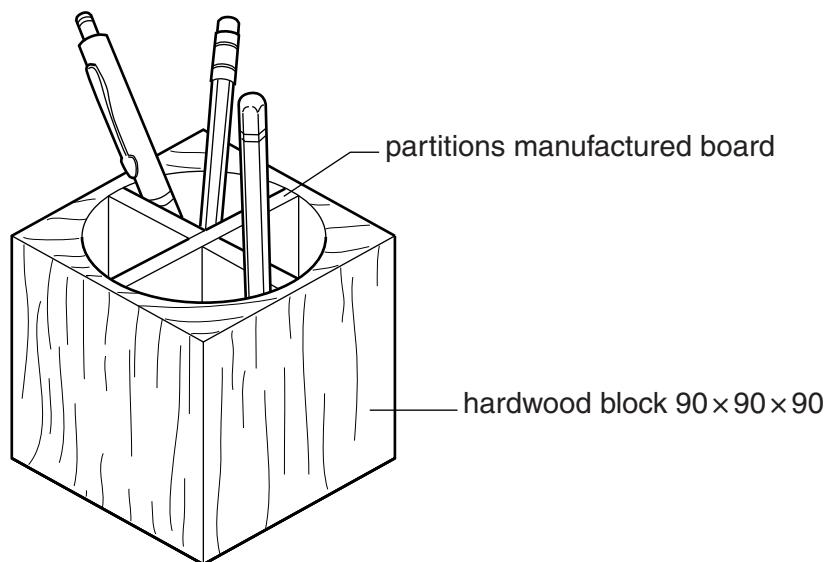

Fig. 4
- 3 Fig. 4 shows a pen and pencil holder made from hardwood and manufactured board.
- (b) Use sketches and notes to show how the manufactured board could be joined to make the partitions shown in Fig. 4.